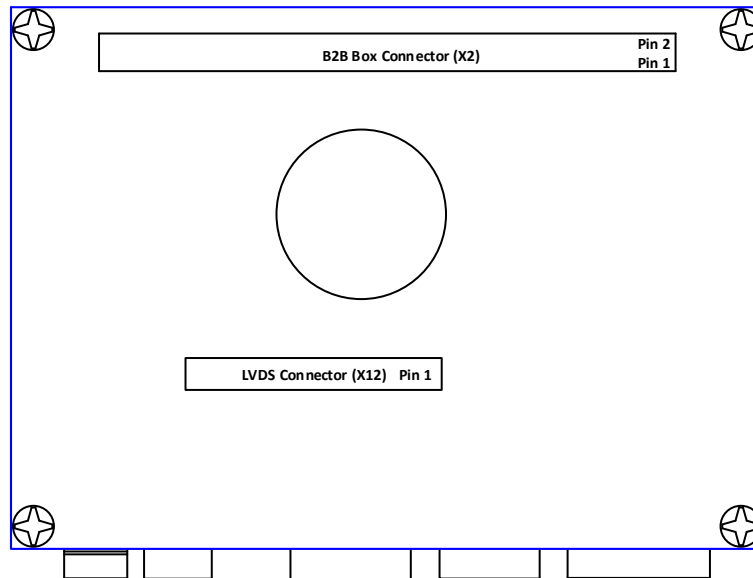

Figure 3: Overview of the interfaces on the bottom side
- ³⁾ GND_IN is the filtered ground which is connected to X6 or X7. See Figure 3.